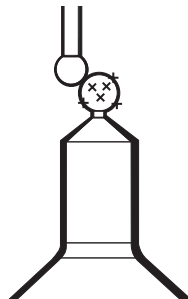

Figure 8 - Datuming the ball of the kinematic pivot location
9. Datum the ball of the kinematic pivot location using a minimum of (10) ten readings (see figure 8). Set the centre of the pivot ball to be the origin (i.e. $X=0$, $Y=0$, $Z=0$).